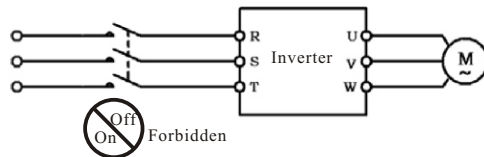

Figure 1-5
- DO NOT proceed direct start-stop operation frequently with a contactor or any other switch devices in the inverter input side. As large charging current exists in the main circuit of the inverter, frequency power-on/off may produce cumulative effect resulting in heat fatigue of inverter components and great reduction of service life of the inverter. See the detail in the Figure 1-5.